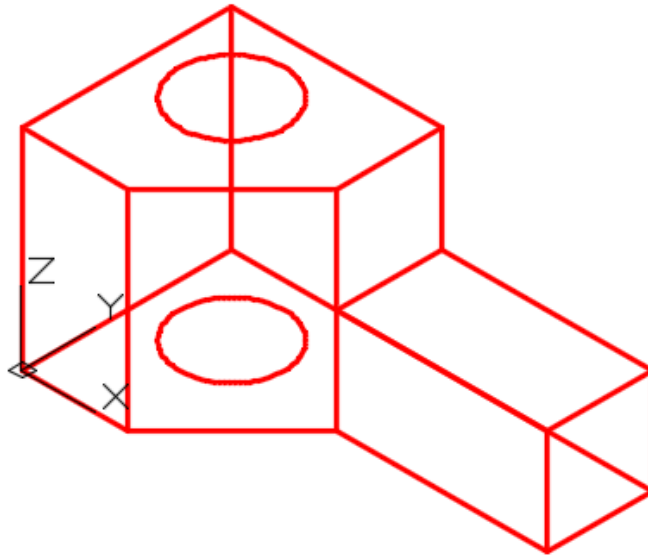

Figure Step 15
Step 15 Change the current view to SE Isometric. (Figure Step 15)